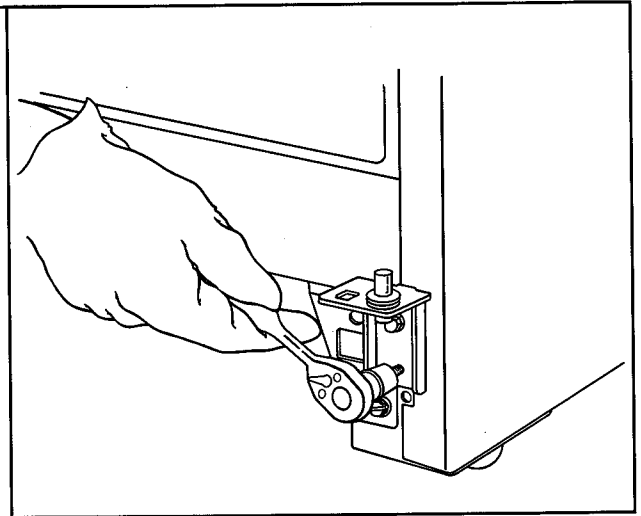

Figure 14
a. Use a ratchet wrench and 3/8" hex socket to remove hex head screws and bottom hinge bracket from bottom right side of cabinet. See Figure 14.